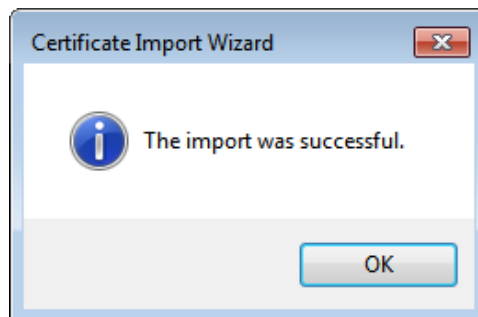

Figure 61: Certificate Import Confirmation
12. On the confirmation dialog box (Figure 61), click OK.